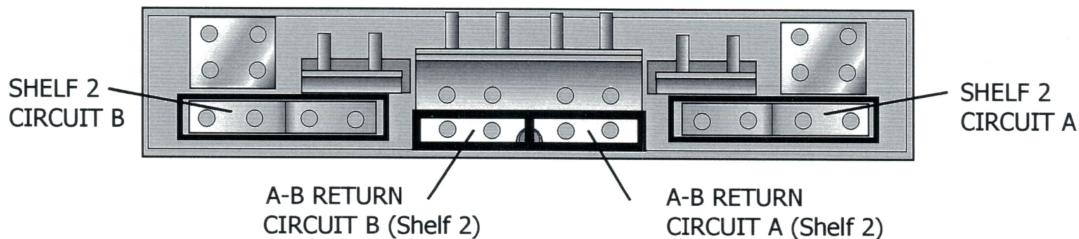

Figure 35 X3 Fabric Shelf Connections (Lower-Shelf Position) on the PDU (Rear view)
8. Using a $1\frac{1}{2}$ -inch nut driver, remove the nuts from the threaded posts on the back of the PDU on the bus labeled SHELF 2 CIRCUIT A. Also remove the nuts from the threaded posts on the bus labeled A-B RETURN CIRCUIT A. See Figure 35 for the bus locations.
9. Place the free end of the A-side return cable over the posts of the A-B RETURN CIRCUIT A bus. Replace the nuts and tighten with a $1\frac{1}{2}$ -inch nut driver. See Figure 35, Circuit A insert.
10. Place free ends of the A-side power cables over the posts of the SHELF 2 CIRCUIT A bus. Replace the nuts and tighten with a $1\frac{1}{2}$ -inch nut driver. See Figure 35, Circuit A insert.
11. Using a $1\frac{1}{2}$ -inch nut driver, remove the nuts from the threaded posts on the back of the PDU on the bus labeled SHELF 2 CIRCUIT B. Also remove the nuts from the threaded posts on the bus labeled A-B RETURN CIRCUIT B. See Figure 35 for the bus locations.
12. Place the free end of the B-side return cable over the posts of the A-B RETURN CIRCUIT B bus. Replace the nuts and tighten with a $1\frac{1}{2}$ -inch nut driver. See Figure 35, Circuit B insert.
13. Place the free ends of the B-side power cables over the posts of the SHELF 2 CIRCUIT B bus. Replace the nuts and tighten. See Figure 35, Circuit B insert.